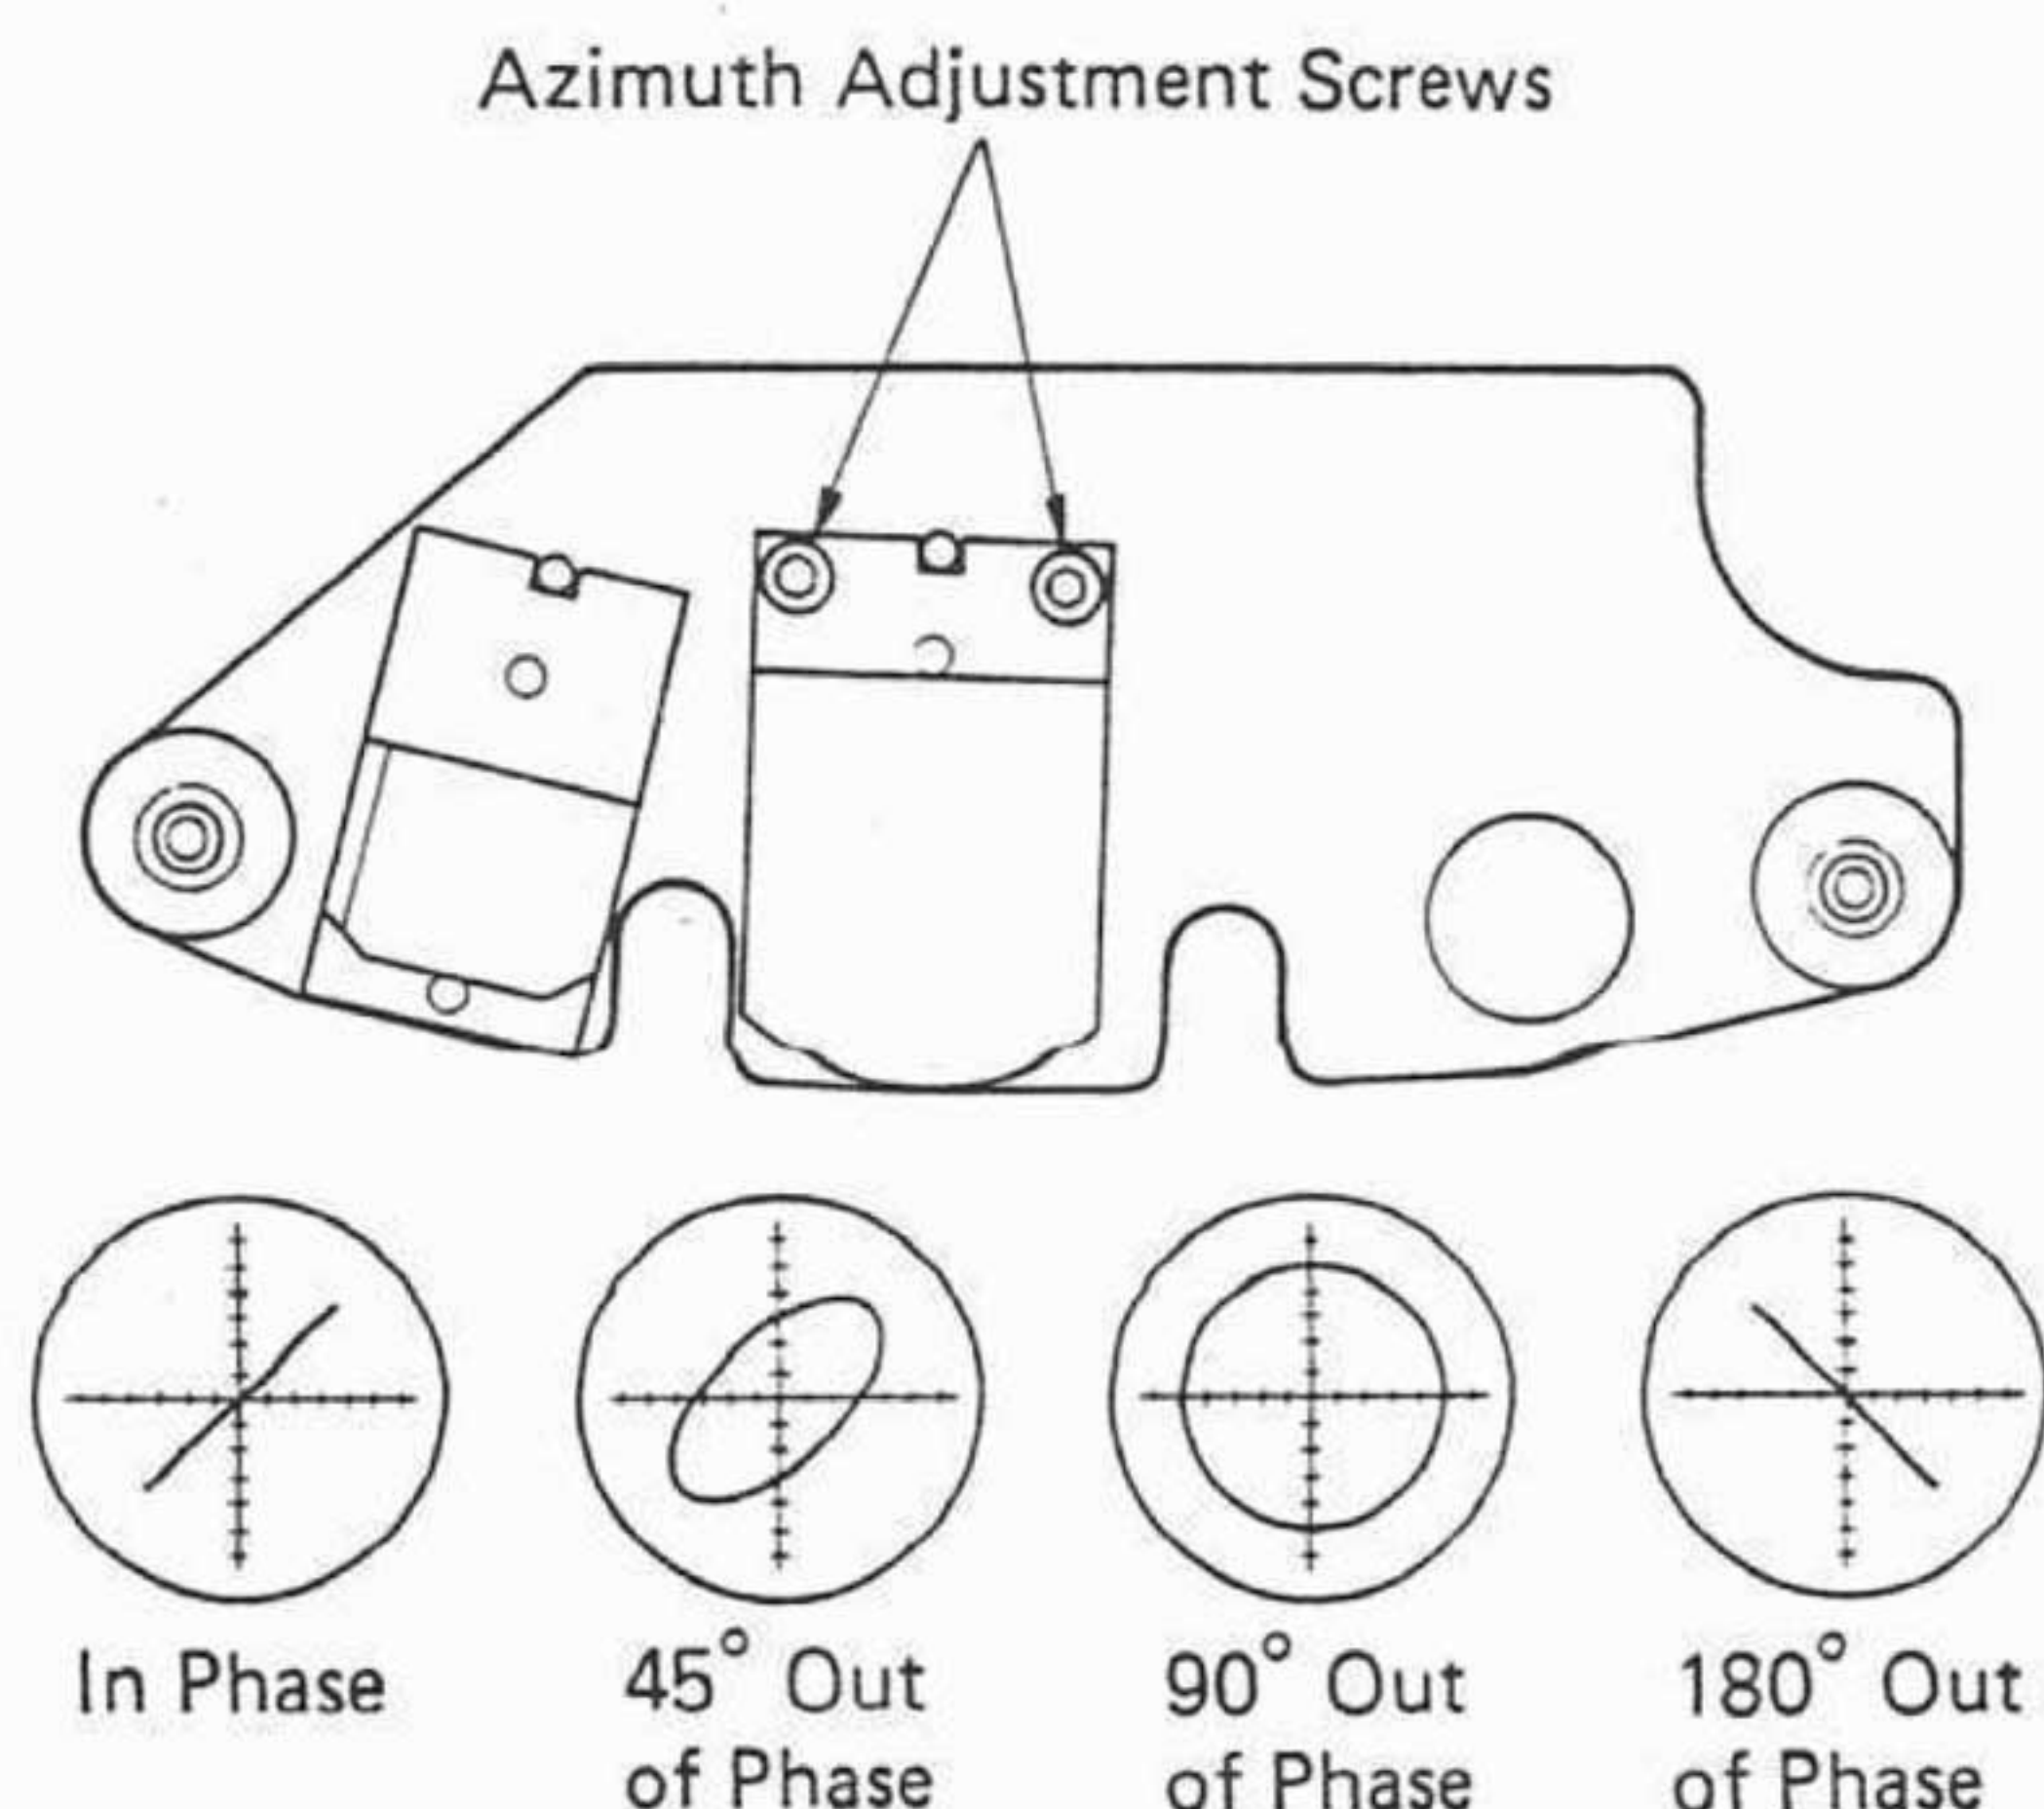

FIG. 33. HEAD AZIMUTH ADJUSTMENTS
2. Adjust the azimuth adjustment screws shown in Fig. 33 (by slightly loosening one while tightening the other, alternately) for less than 45° phase